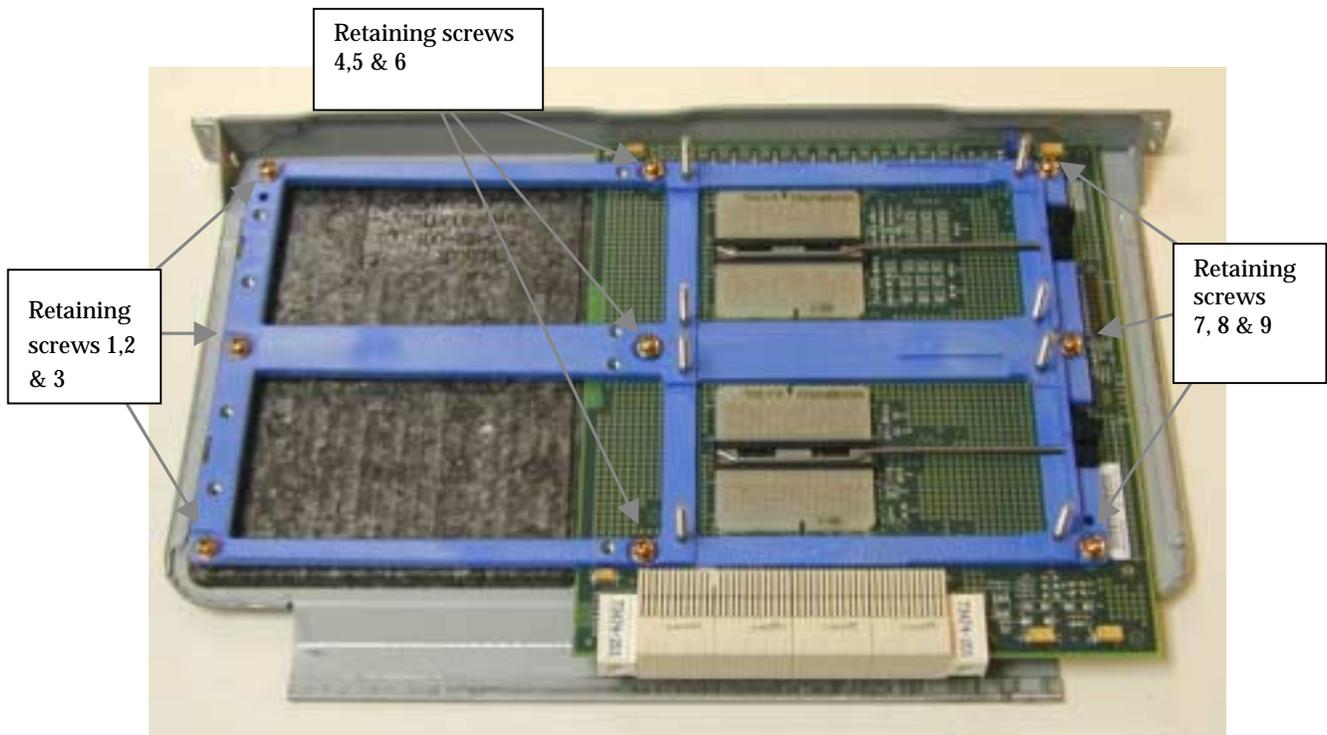

Figure 18 Retention device screw locations
7. Upon removal of the Itanium processor, next remove the nine (9) Phillips-head screws securing the blue retaining device to the processor backing plate (refer to Figure 18).